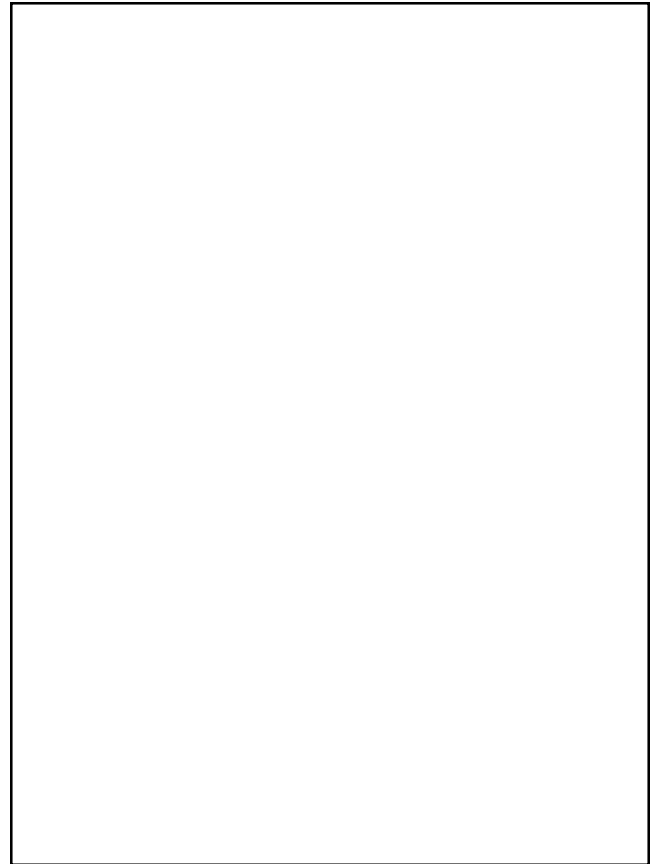

Figure 3-1. Phasing check using hot-line stick and phasing testers
c. Phase differences. Before connecting two or more circuits together the phases of the circuits should be checked. A short circuit will occur when two circuits having different phases are connected to each other. Only circuits of same phase can be connected. When two circuits are in-phase the voltages across the circuits will be zero. For a power system less than 600 volts a voltmeter can be used for phase testing. For a power system larger than 600 volts a hot stick and high voltage voltmeter should be used (See figs 3-1 and 3-2).